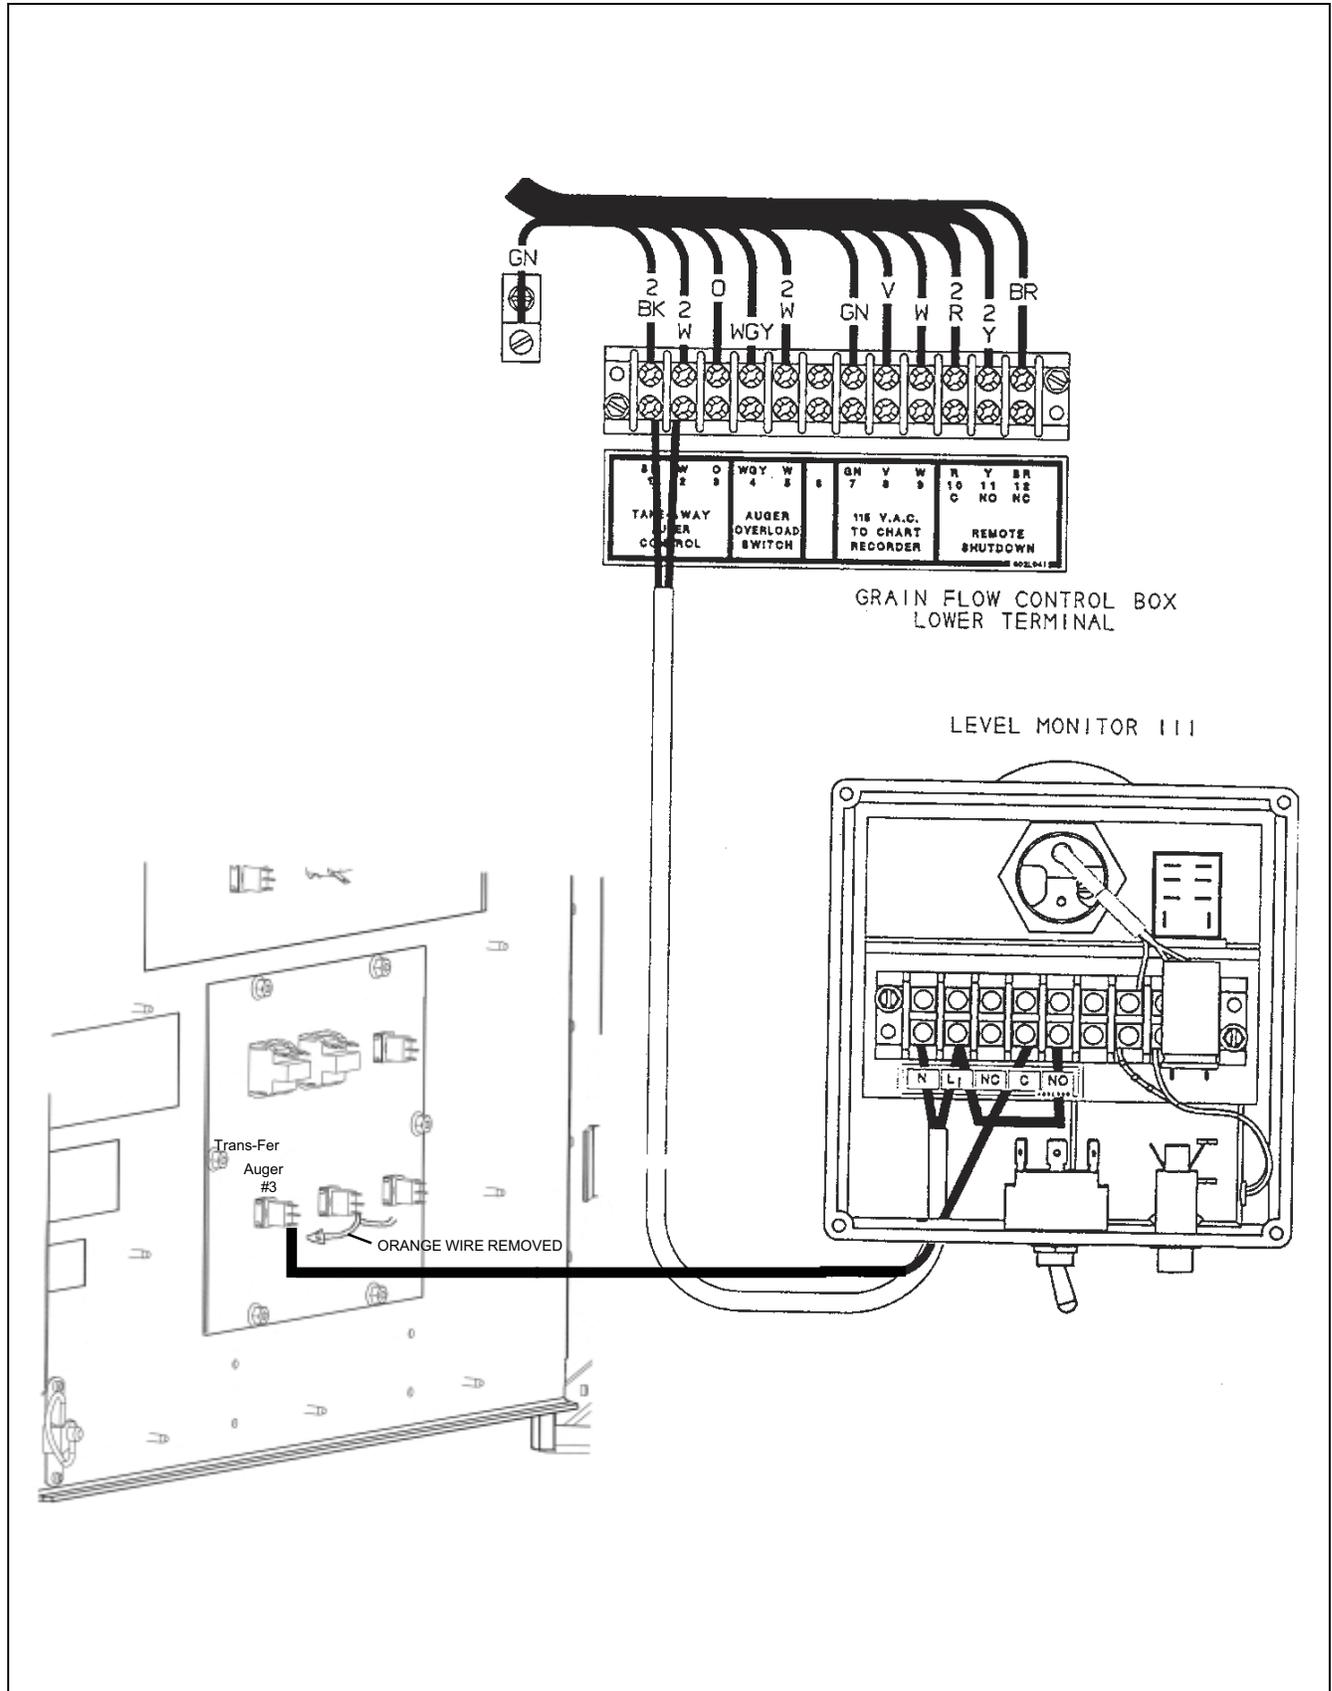

Figure 11E
2. Remove the orange wire from the bottom of the third take-away auger switch and insulate. From this switch terminal run a wire to the "C" on the level monitor. Put a jumper from the N.O. to L1 on the terminal strip in the level monitor. (See Figure 11E on Page 104.)